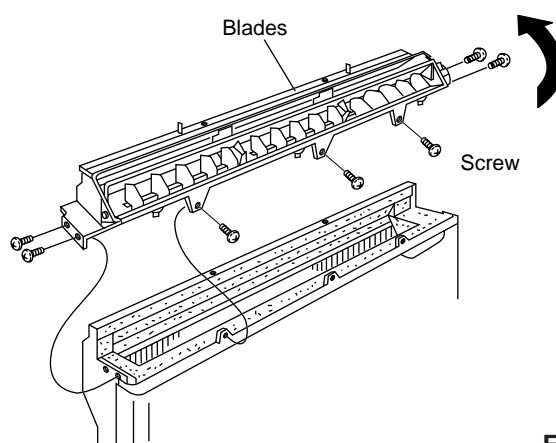

Fig.8
(Fig. 8)
- (2) Lift the blades in the direction of the arrow.(Fig. 8)